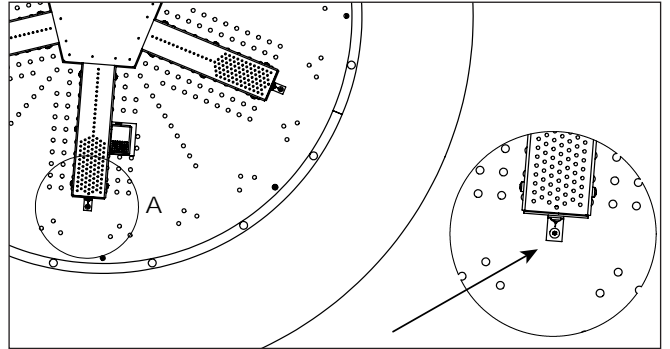

Figure 7: Burner Removal
- a. Remove five (5) T-20 screws on end of each burner arm. (See Figure 7).